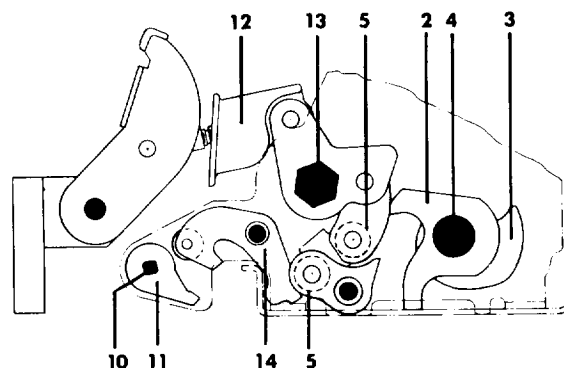

FIG. 10B TRIPPED
**Tripped Position** — The mechanism goes from the Closed position to the Tripped position, shown in Fig. 10B, when the trip shaft, item no. 10, is rotated by either the manual trip button or one of the other trip devices. The trip latch, item no. 11 is assembled to the trip shaft. When the trip shaft rotates, the trip latch disengages from the secondary latch roller. The secondary latch pivots, resulting in the collapse of the toggle linkage. This collapse along with the opening spring, item no. 15, shown in Fig. 10 C, causes the breaker contacts to open.